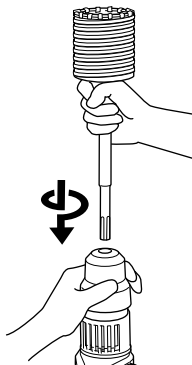
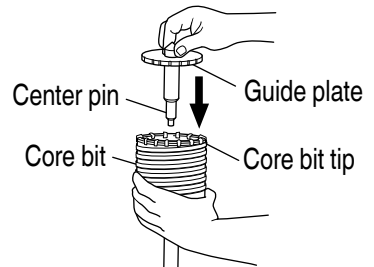

Fig. 34
Fig. 35
- (2) Mount the core bit shank to the Rotary Hammer. (**Fig. 34**)
- (3) Insert the center pin into the guide plate until it stops.
- (4) Engage the guide plate with the core bit, and turn the guide plate to left or right so that it does not fall even if it faces downward. (**Fig. 35**)